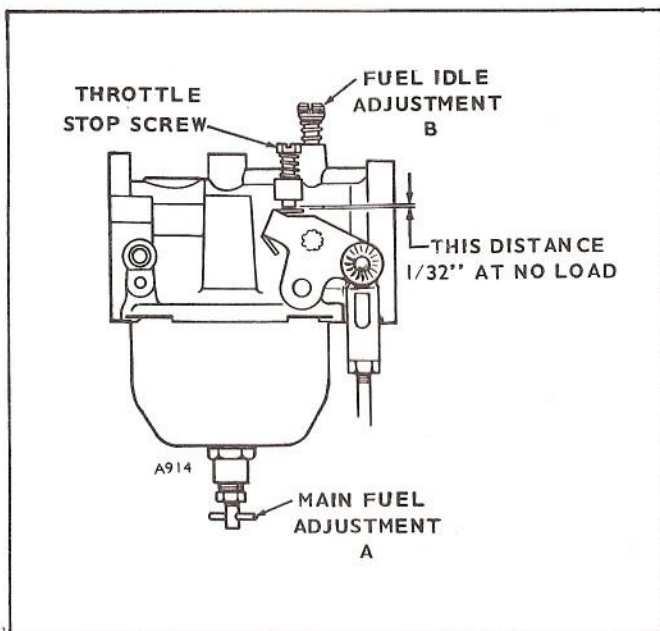

FIGURE 1. CARBURETOR ADJUSTMENT
The carburetor (Fig. 1) has a main fuel (high speed) adjustment (needle A) and a fuel idle adjustment (needle B). The main adjustment (needle A) affects operation under heavy load conditions. Idle adjustment affects operation at light or no load. Under normal circumstances, factory carburetor adjustments should not be disturbed. If the adjustments have been disturbed, turn needles off their seats, 1 to 1½ turns to permit starting, then, re-adjust them for smooth operation.
Set the throttle stop screw (located on carburetor throttle lever) with no load connected and while running at a low rated speed setting. Turn the screw to give 1/32" clearance between the screw and pin (Fig. 1).
**Linkage:** The engine starts at wide open throttle. The length of the linkage connecting the governor arm to the throttle arm is adjusted by rotating the ball joint. Adjust length so that with the engine stopped and tension on the governor spring, the stop screw on the carburetor throttle lever is  $1/32''$  from stop pin. (Fig. 1) This setting allows immediate control by the governor after starting and synchronizes travel of the governor arm and the throttle shaft.